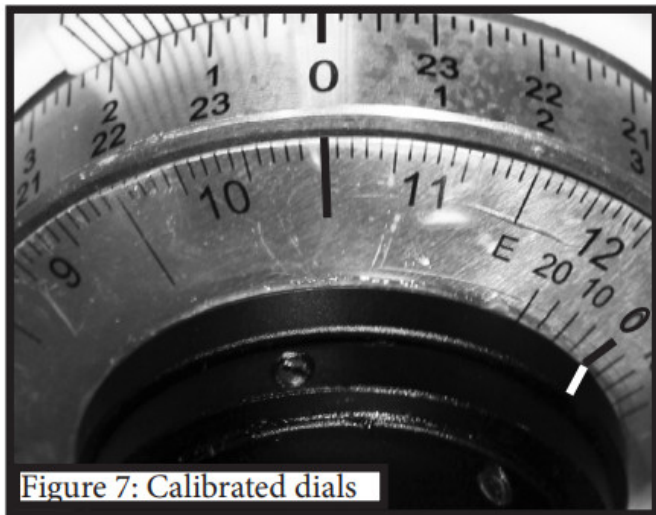

Figure 7: Calibrated dials
3. Now adjust the calendar dial (Figure 5, #4) so the large line between the 10 & 11 is aligned with the mount RA indicator (see Figure 7).
If it is not aligned with the calendar dial 0 mark, use a tiny flat head screwdriver (user supplied) to loosen the Longitude indicator locking set-screw and align the marks. Tighten the screw when aligned. When complete the reference dials should appear as in Figure 7.